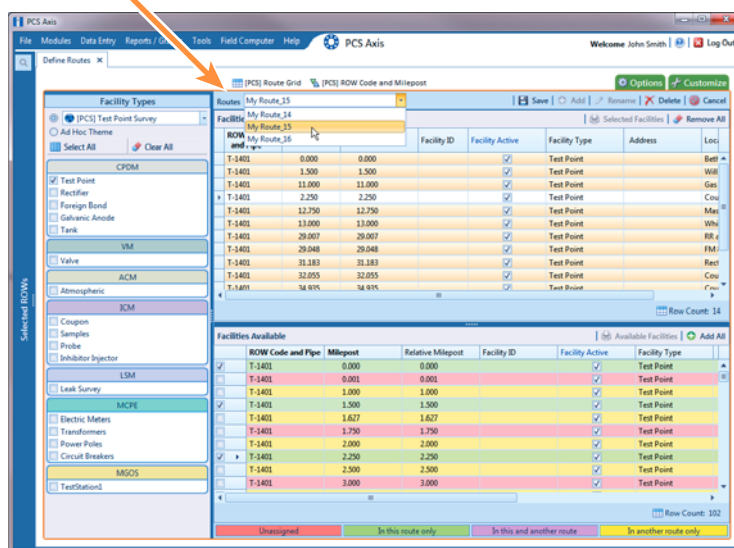

Figure 7-1. Define Routes
- 3 Click the down arrow in **Routes** and select a route in the selection list (Figure 7-1).
- b Click **Data Entry > Define Routes**, then click the down arrow in **Routes** and select a route (Figure 7-1, page 284).